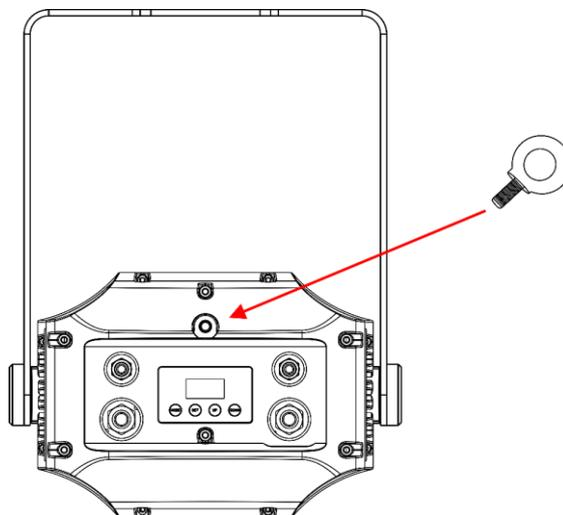

Fig. 05
01) Install the supplied safety eye in the **safety eye mounting hole (06)**, as shown in Fig. 05.